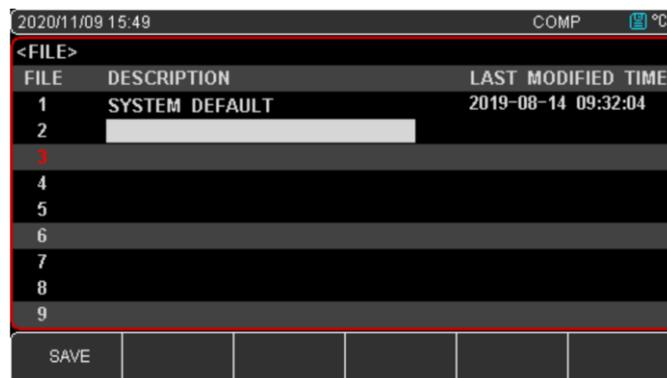

Figure 8-1-1 File
2. Move the cursor key to specific line, press SAVE button and then use cursor key to enter file name. Example "UNIT" (Figure 8-1-1 for reference)